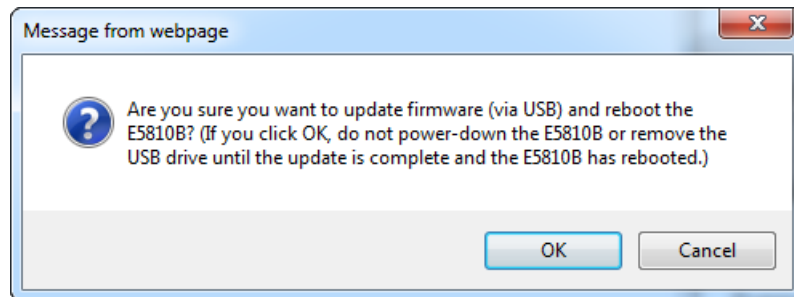

Figure 3-12 Update firmware (via USB) message dialog box
- a You will be prompted with an update firmware (via USB) message dialog box as shown in **Figure 3-12**.